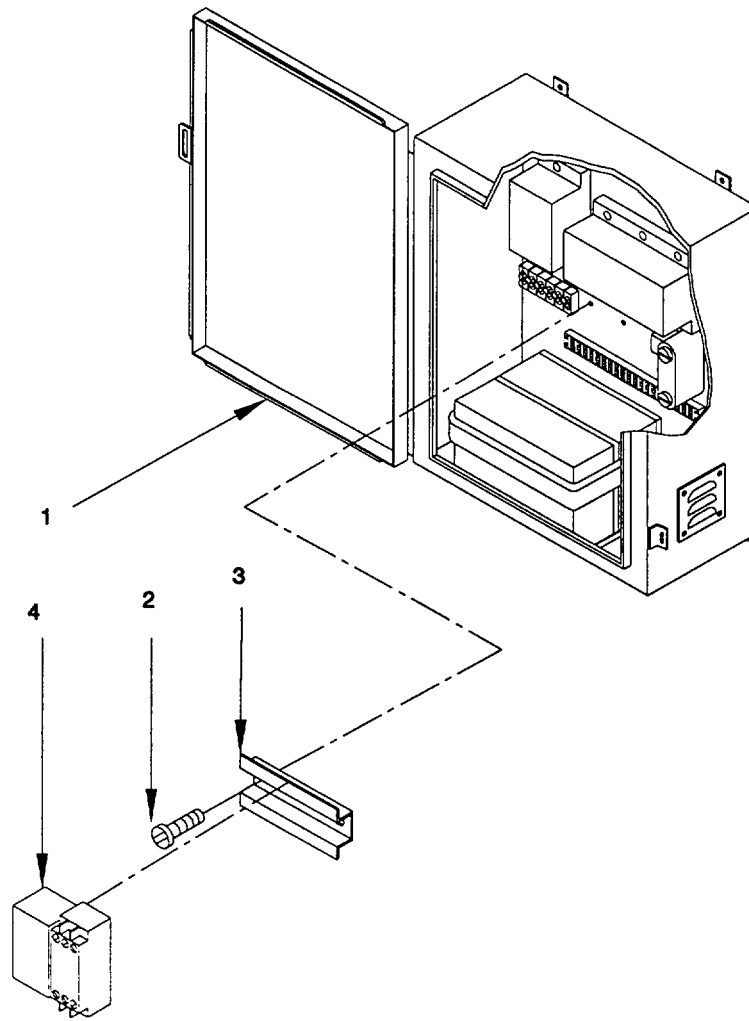

Figure 2-81. Transformer, Pump-Jet Direction/Auxiliary Battery Junction Box "A9", Remove/Install.
a. Remove. (figure 2-81)
- (1) Open enclosure door to access interior of junction box (1).
- (2) Disconnect electrical wiring to junction box A9 (1) and tag OUT OF SERVICE.
- (3) Remove two pan head screws (2) to free din rail (3) and transformer (4).
b. Install. (figure 2-81)
- (1) Position transformer (4) and din rail (3) and secure with two pan head screws (2).
- (2) Connect electrical wiring to junction box A9 (1). Refer to Appendix G.
- (3) Close door to junction box (1).